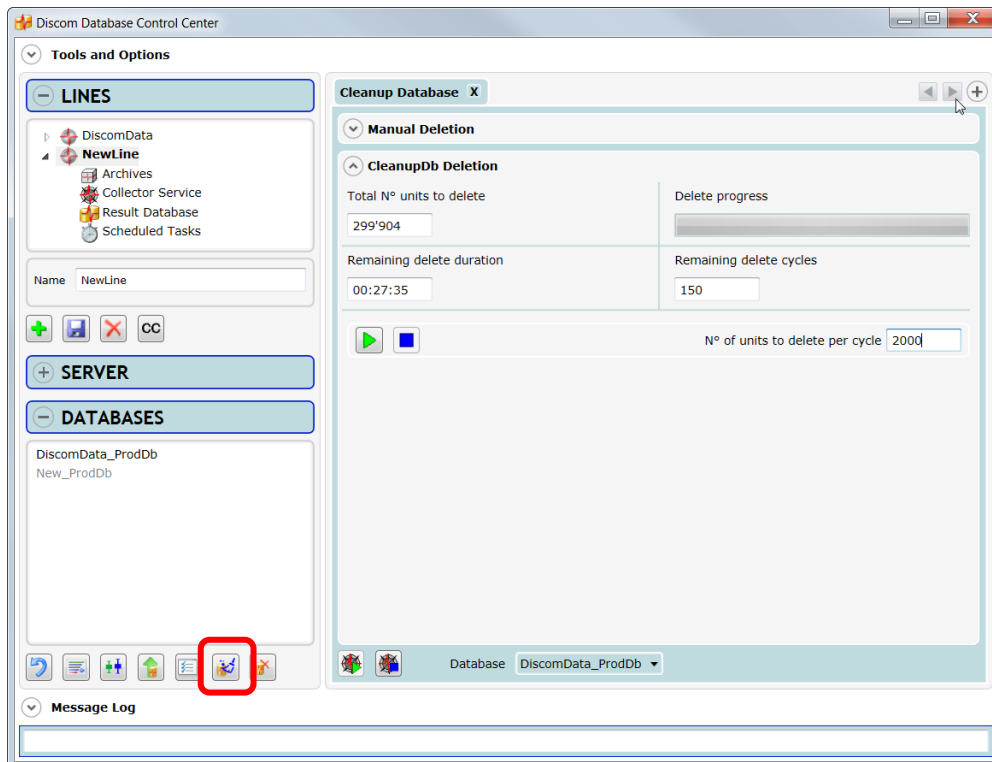

Fig. 36: Cleanup database: Stepwise deletion (“CleanupDb” deletion).
- To manually delete stepwise, click the “Cleanup Database” button (Fig. 36).
After selecting the database and stopping the collector service (if active), specify the number of n° units to delete per step (cycle) and start the deletion by pressing “play” (red frame in Fig. 36). The deletion process runs as a background thread and loops over the table “TimeLimitsOfTypes” where the number of units to delete per type and/or bench are defined (Fig. 37). The process can be stopped any time by clicking the stop button.